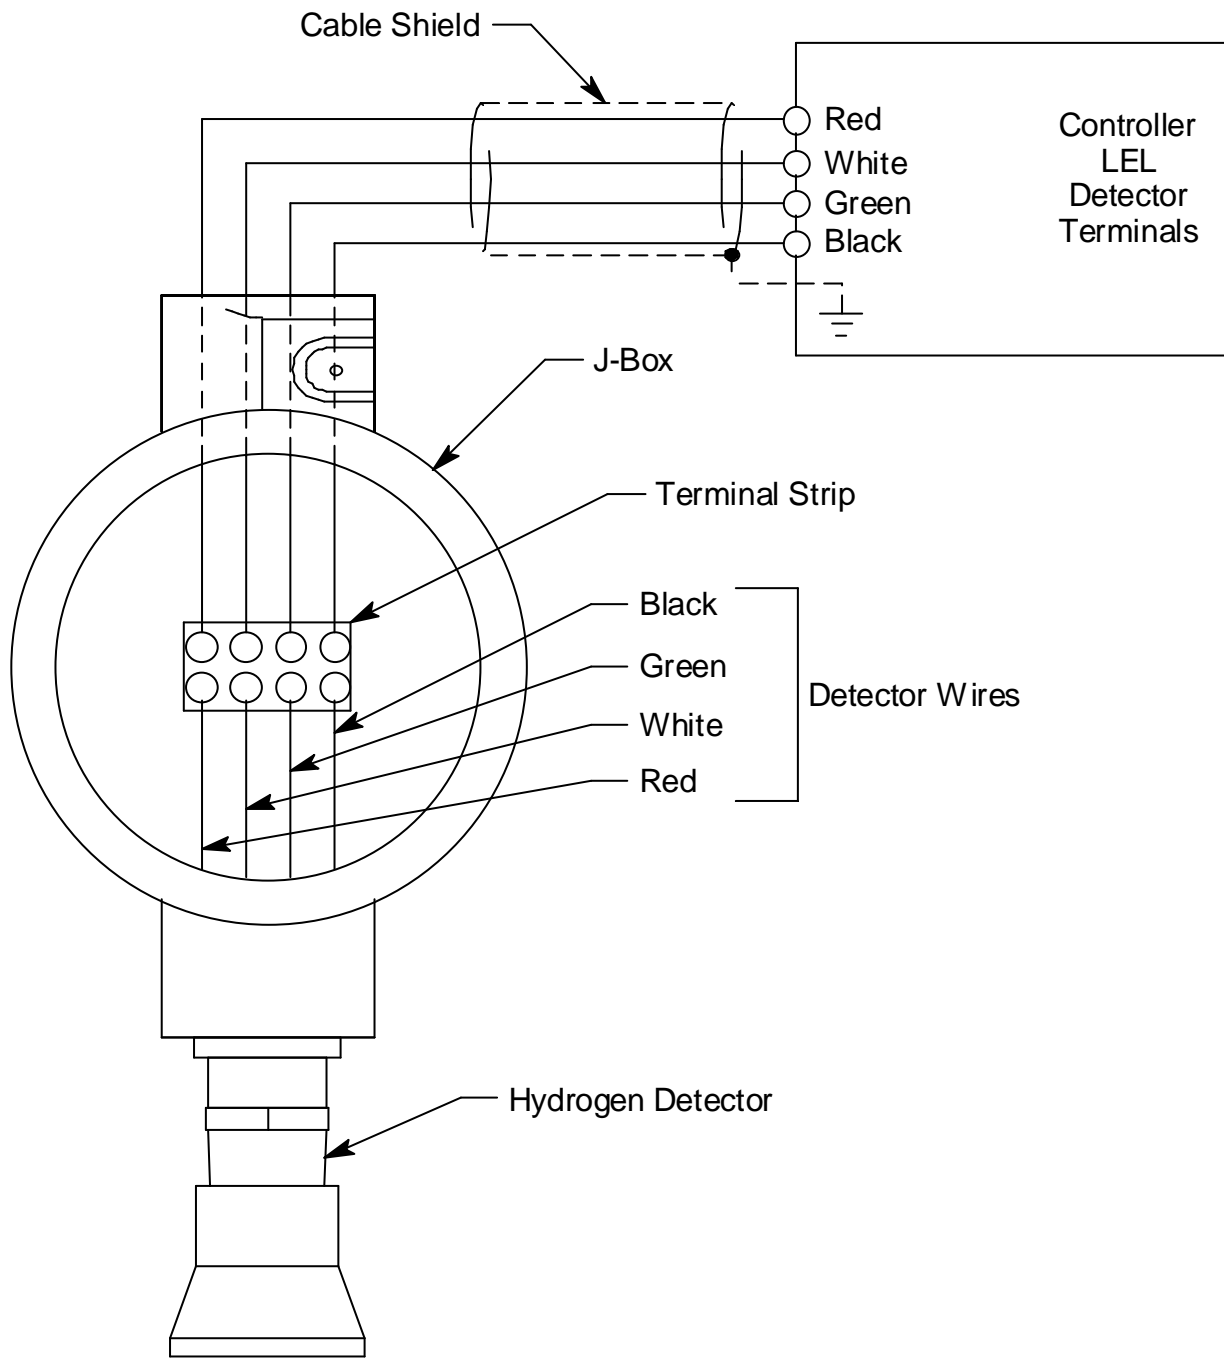

Figure 3: Wiring the Hydrogen Detector to a Controller
If the detector is mounted directly to a controller, it is normally factory wired. Confirm that the detector's wires are connected to the appropriate controller detector terminals and skip to "Start Up" on page 10. See Figure 3, the controller operator's manual, and the controller's detector head specification sheet for the NC-6205-01 detector for the wiring connections.
7. If the detector is installed directly on a controller, connect the detector leads to the appropriate detector terminal strip terminals. See Figure 3 for wiring to a generic controller. See the controller operator's manual and the controller's detector head specification sheet for the NC-6205-01 detector for wiring specific to your controller.
If the detector is installed remotely from a controller in a junction box, connect the detector leads to the terminal block the same way the old detector was wired (see Figure 3). See the controller operator's manual and the controller's detector head specification sheet for the 61-1001RK detector to verify the connections to the controller are correct.